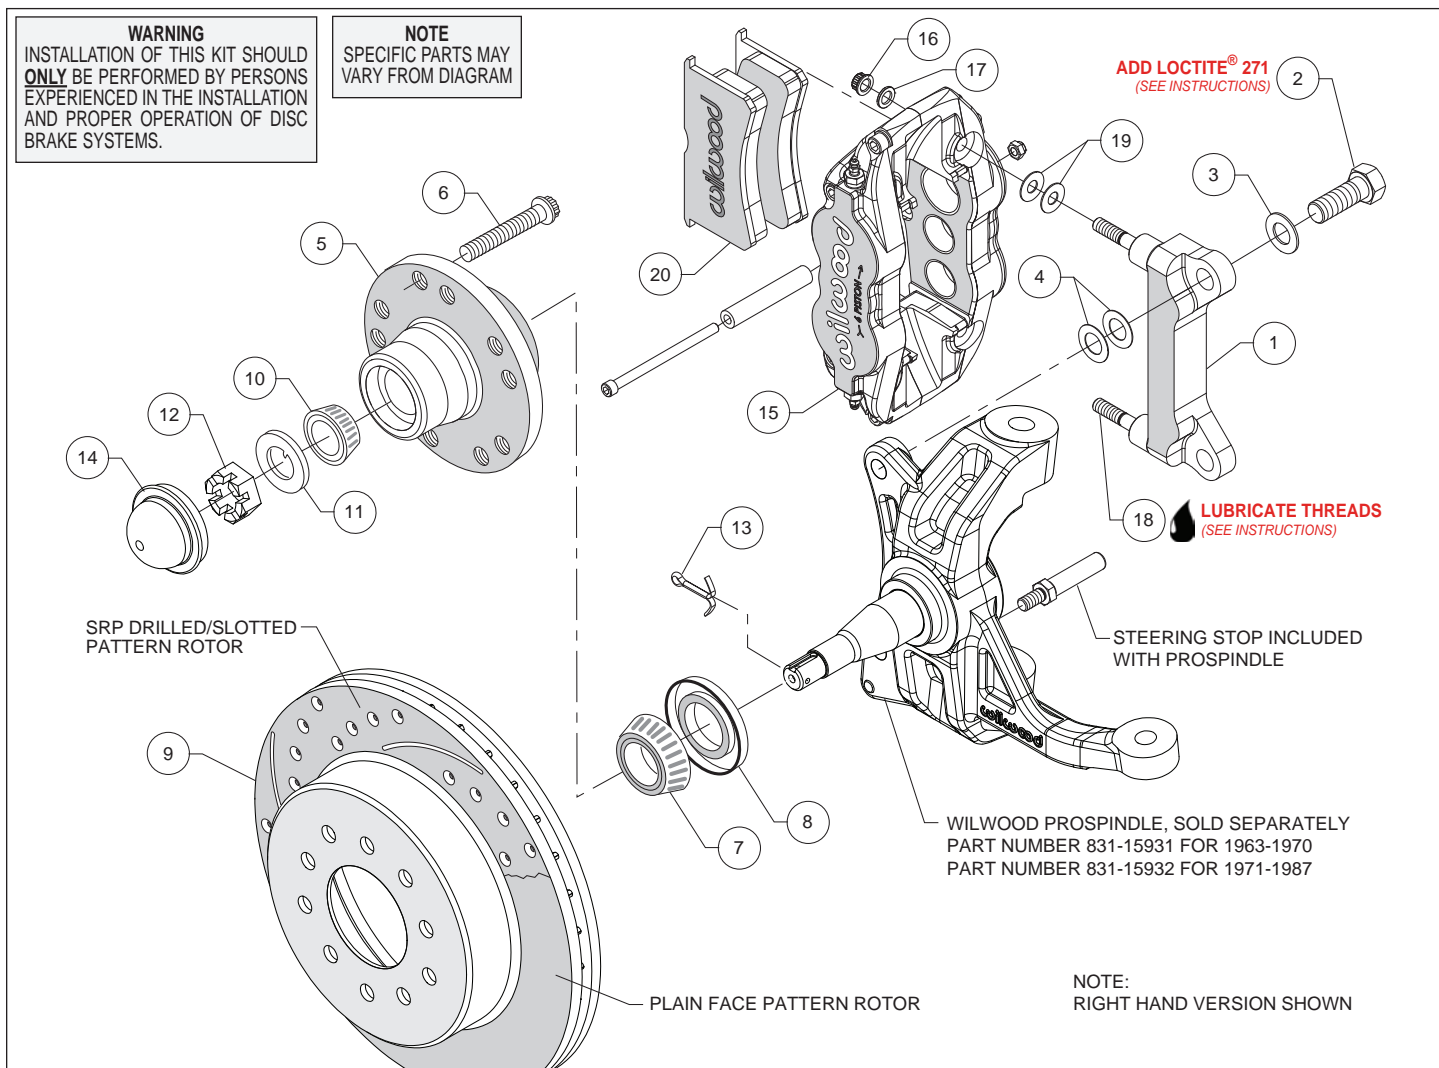

Figure 1. Typical Installation Configuration
Assembly Instructions (numbers in parenthesis refer to the parts list and Figure 1 on the preceding pages):
- Install the steering stop bolt (included with the ProSpindle) into the spindle as shown in Figure 1 and Photo 1. Torque to 25 ft-lbs.
- The caliper mount bracket (1) should initially be installed with clean, dry threads on the mounting bolts. Orient the bracket, as shown in Figure 1 and Photo 2, and install using bolts (2) and washers (3). Initially place two .024" thick shim (4) on each bolt between the bracket and spindle, Figure 1. Temporarily tighten the mounting bolts. **NOTE:** The bracket must fit squarely against the mount bosses on the spindle. Inspect for interference from casting irregularities, machining ridges, burrs, etc. Later, after the caliper alignment has been checked, the mount bolts will be secured using red *Loctite*® 271.
- Install wheel studs (6) into the hub (5), Photo 3. Torque to 77 ft-lb. **NOTE:** There are two five lug patterns in the hub (5 x 4.75 and 5 x 5.00). Ensure the correct hub stud pattern is being used to fit the wheel application.
- **NOTE:** This kit contains distinct right and left hand calipers that must be mounted in a specific direction, as described below. Lubricate the caliper mounting studs (18) with lightweight oil. Initially place two .035" thick shims (19) on each stud between the caliper and the bracket, as shown in Figure 1 and Photo 8. Mount the caliper (15) onto the bracket (1) using lock nuts (16) and washers (17), Figure 1. Temporarily tighten the lock nuts. Ensure that the caliper is mounted so that the largest pistons are at the rotor exit end of the caliper, in relation to the direction of rotor rotation. View the rotor through the top opening of the caliper. The rotor should be centered in the caliper, Photo 9. If not, adjust by adding or subtracting shims (4) between the bracket and the spindle. Always use the same amount of shims